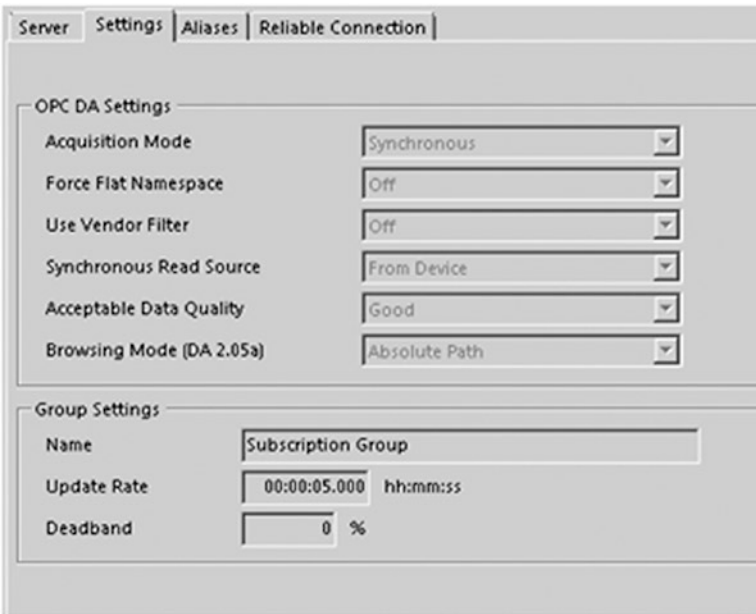

Figure 7-134. The OPC DA setting in PCo
11. Certain other properties can also be selected in the Settings, Aliases, and Reliable Connection tabs of OPC agent configuration. See Figure 7-134.